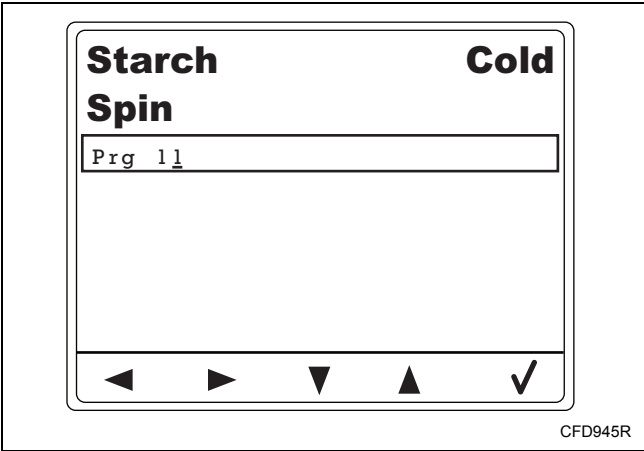

Figure 34
**NOTE: Modifying the program's title is only possible when the text is not a bitmap. When copying or creating new cycles on the machine, these cycles will have a text title. Refer to *Figure 34*.**